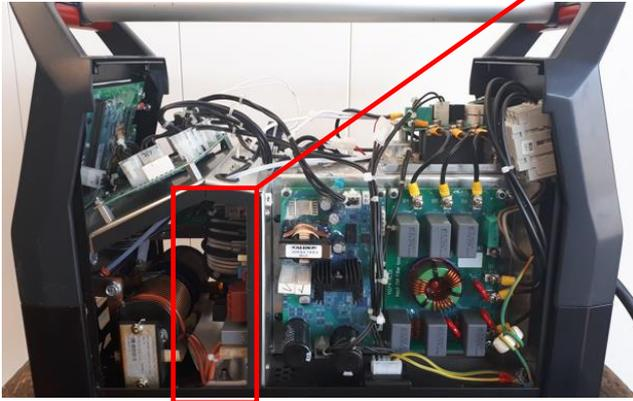

Figure 35
3. Locate the HF Board. See **Figure 35**